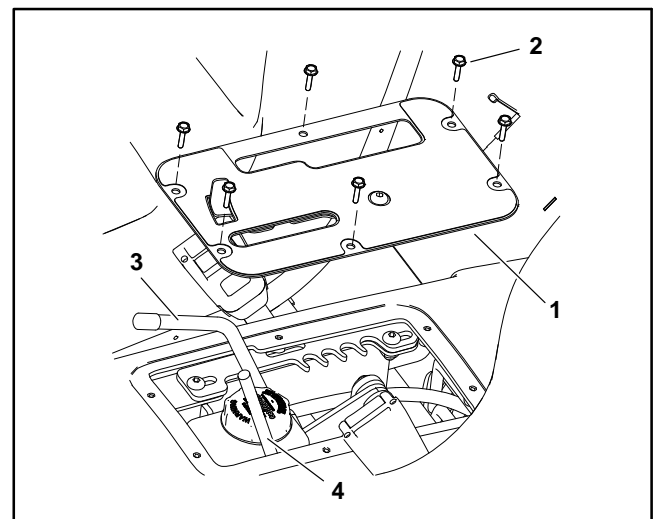

Figure 36
5. Remove knobs from control levers (Fig. 36).
6. Remove six (6) washer head screws that secure center console control plate assembly to seat base. Remove center console control plate assembly.
7. Remove four (4) washer head screws that secure shift plate (item 5) to seat base. Lift shift plate from seat base, carefully unplug plate connector from vehicle wire harness and remove shift plate.
8. Remove four (4) socket head screws that secure each seat to vehicle. Lift both seats from vehicle.